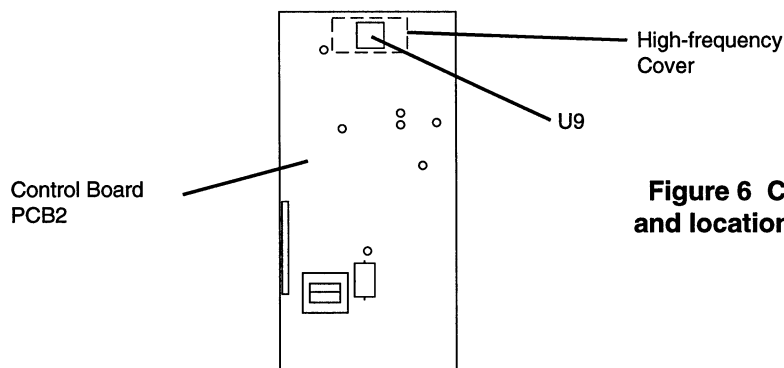

Figure 6 Control Board PCB2 and location of firmware 081004
3. Find Control Board PCB2 and firmware IC **081004**. Firmware IC is located in socket labeled **U9** underneath high-frequency cover. See Fig. 6